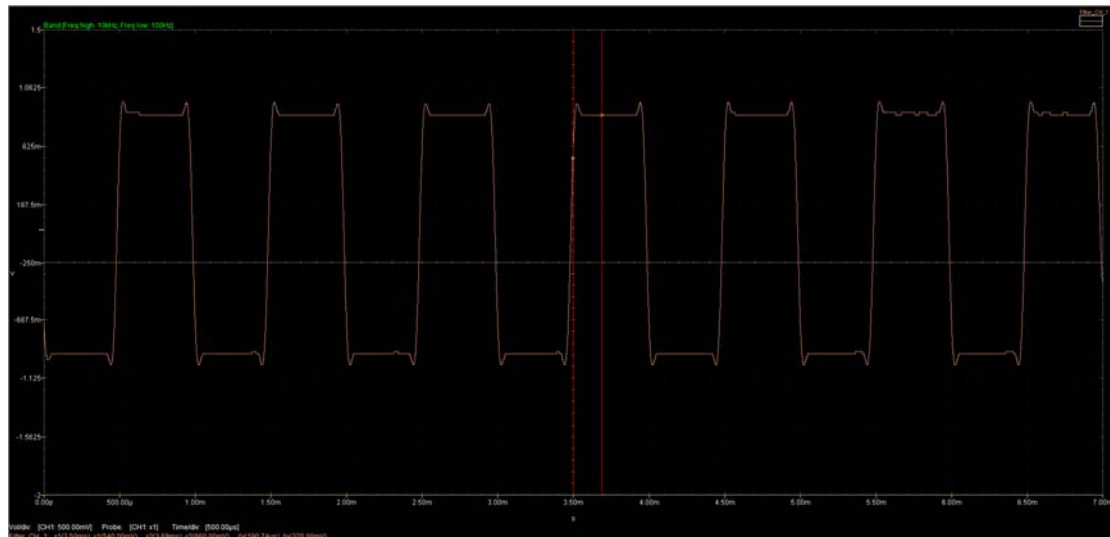

Fig.4-22
d. Choose View and Filter (separate) in order in the menu to view virtual display of the software. See Fig.4-22.